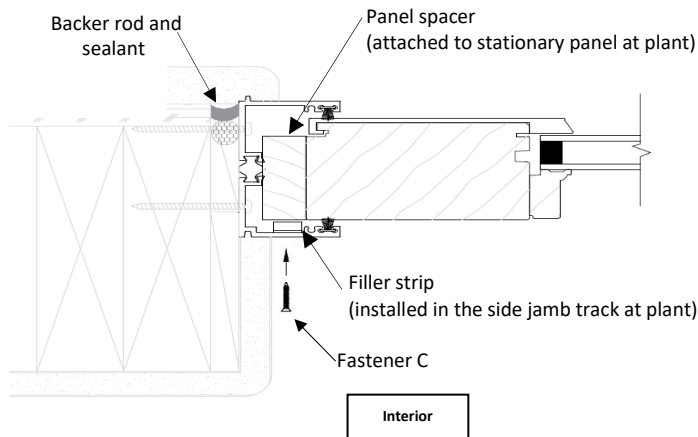
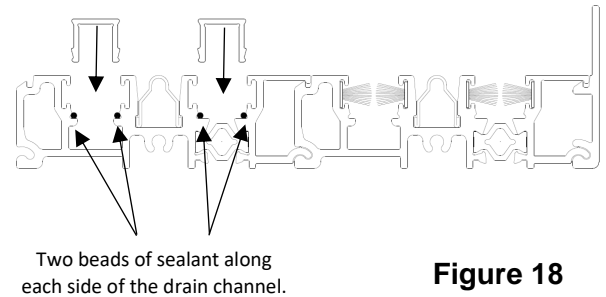

Figure 17
Figure 18
- 5.6 Complete panel installation with the exterior most panel (stationary) being installed last. Remove drain cover before installing the stationary panel. Insert stationary panel with spacer attached into the side jamb track. Using #8 x 1" flat head black fasteners (C) on interior, secure side track with filler strip to panel spacer on panel (see Figure 17). Once the stationary panel is set in place, install the 6" stationary panel drain covers. Prior to installing the 6" stationary panel drain cover, apply two beads of sealant the length of the bottom edge of each drain channel at the location where the drain cover is snapped into place (see Figure 18).